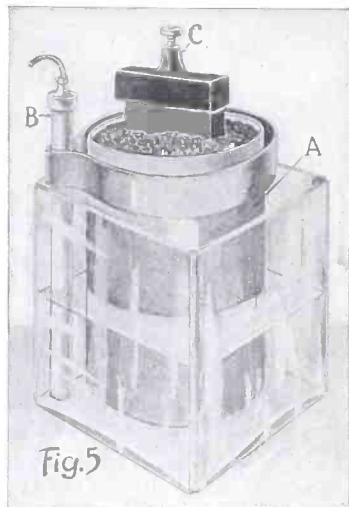

Fig. 5
16. The Leclanche battery is the most prominent of all the batteries yet discussed. Fig. 5 shows the internal construction of one of these cells. It is, of course, the real dry cell or open circuit battery. In the outer jar, we have a zinc rod, designated as B. C, the carbon rod, is inserted in a cup, containing a mixture pure powdered manganese dioxide (this is the depolarizer) and graphite (lead). These solid substances are put in equal